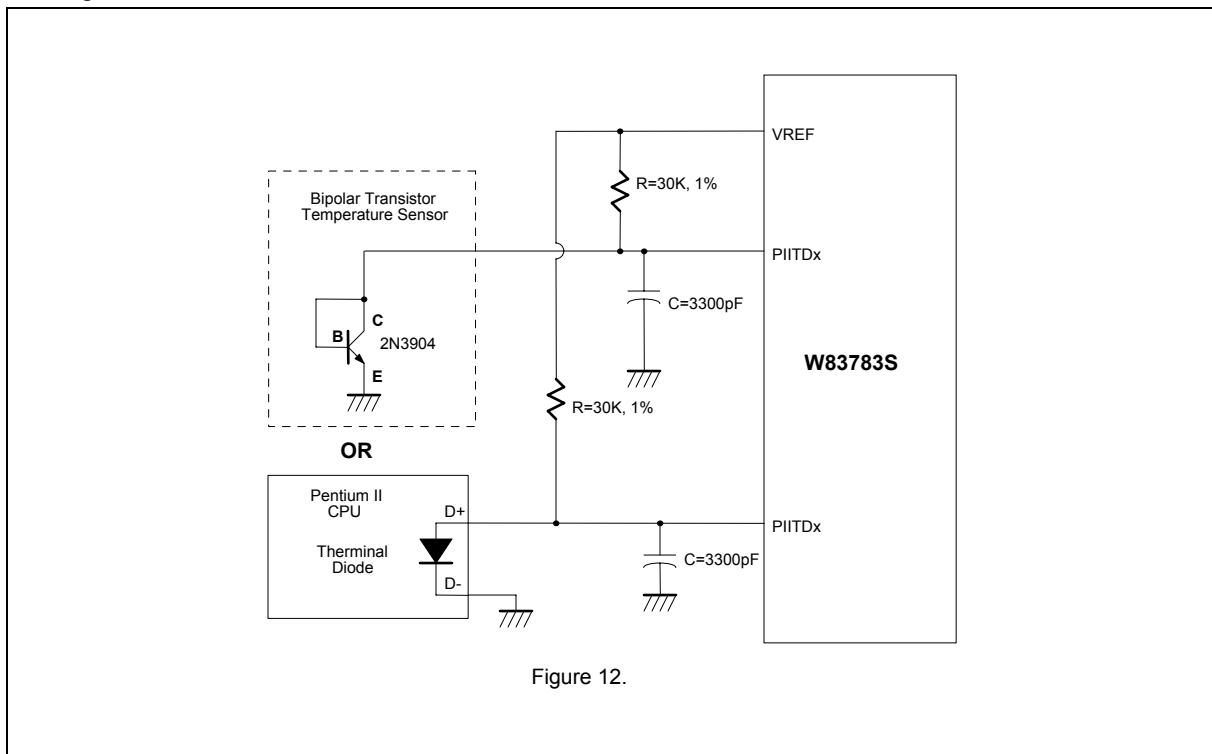

Figure 12.
W83783S can alternate the thermistor to Pentium II™ (Deschutes) thermal diode interface or transistor 2N3904 and the circuit connection is shown as Figure 12. The pin of Pentium II™ D- is connected to power supply ground (GND) and the pin D+ is connected to pin PIITDx in W83783S. The resistor R=30K ohms should be connected to VREF to supply the diode bias current and the bypass capacitor C=3300pF should be added to filter the high frequency noise. The transistor 2N3904 should be connected to a form with a diode, that is, the Base (B) and Collector (C) in the 2N3904 should be tied together to act as a thermal diode.